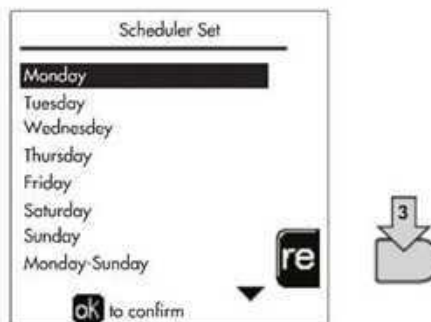

fig. 26
- To restore the time program to the factory values, press **contextual button 3** in the **Time Program** menu (fig. 26) and confirm with **OK**.